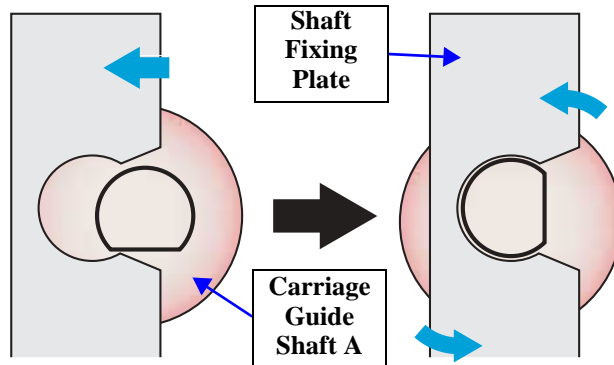

Figure 4-82. Reinstalling the Shaft Fixing Plate
- When reinstalling the Shaft Fixing Plate to the Carriage Guide Shaft A, refer to Figure 4-82 since it will come off if reinstalled incorrectly. (As in the Carriage Guide Shaft B)